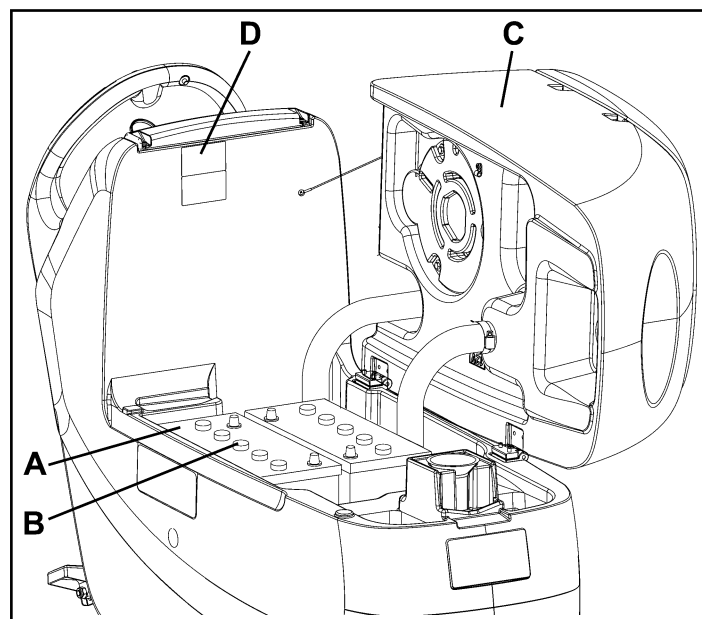
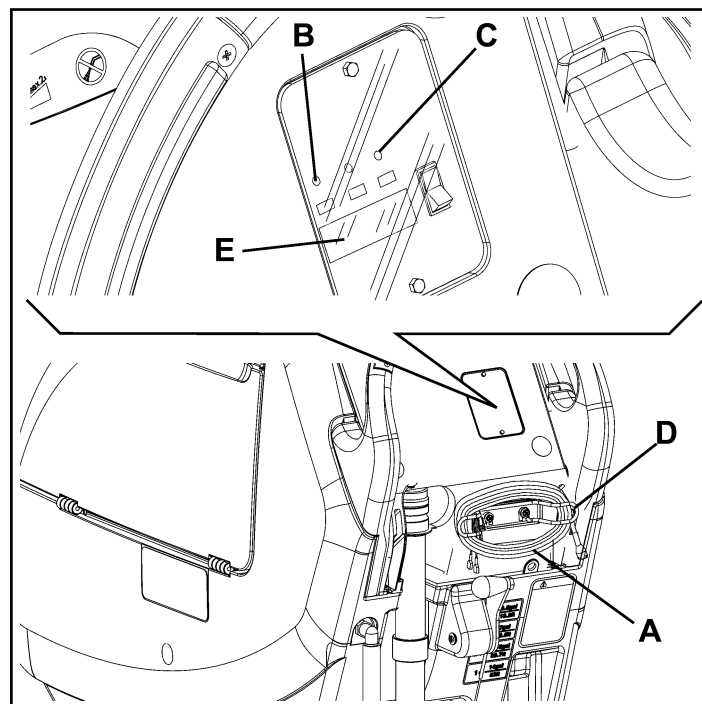

Figure 39
Figure 40
7. Connect the battery charger cable (A, Fig. 40) to the electrical mains (the electrical mains voltage and frequency must be compatible with the battery charger values shown on the machine serial number plate (D, Fig. 39).
When the battery charger is connected to the electrical mains, all machine functions are automatically cut off. If the red warning light (B, Fig. 40) on the battery charger control panel stays on, the battery charger is charging the batteries.
For further information about the operation of the battery charger (E, Fig. 40), see the relevant Manual.